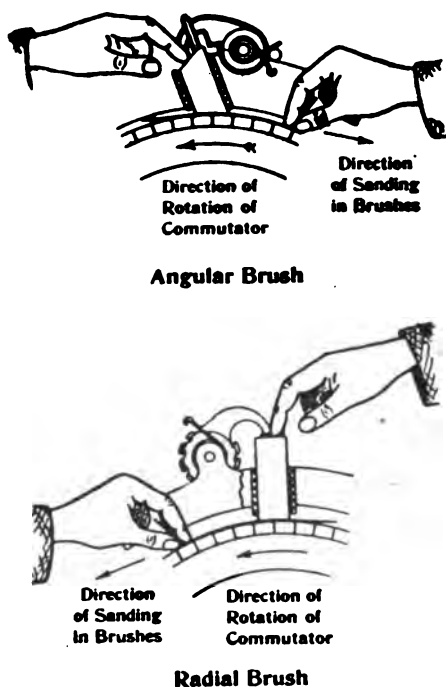

Fig. 337. Methods of Sanding-In Brushes on Dynamotor
**Radial and Angular Brushes.** The brushes employed are of two types—radial and angular. Radial brushes are used on external-regulator type generators other than those having “Type E-49” on the name plate; angular brushes are used on Type E-49 and all inherently regulated generators. Each radial brush should bear squarely against that side of its holder toward which the commutator rotates. Each angular brush should bear squarely against that side of its pocket away from which the commutator rotates. To sand-in old brushes or fit new brushes properly, insert a strip of No. 00 sandpaper (never use emery, paper, or cloth), between the commutator and the brush, press down on top of brush and draw sandpaper under it, Fig. 337. If the brush is *radial*, draw the sandpaper in the direction of commutator rotation; if *angular*, draw the sandpaper in the direction opposite to that of commutator rotation. No oil is needed on the commutator as the brushes themselves contain all the lubricant necessary.